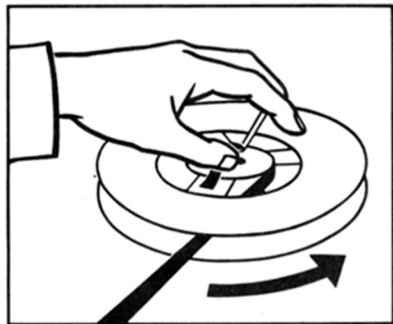

Fig. 7
- Press the free end of the tape against the core of the empty reel and give the reel a few turns anti-clockwise by hand (Fig. 7) until the tape is gripped by the reel. The tape should now lie taut between the two reels.